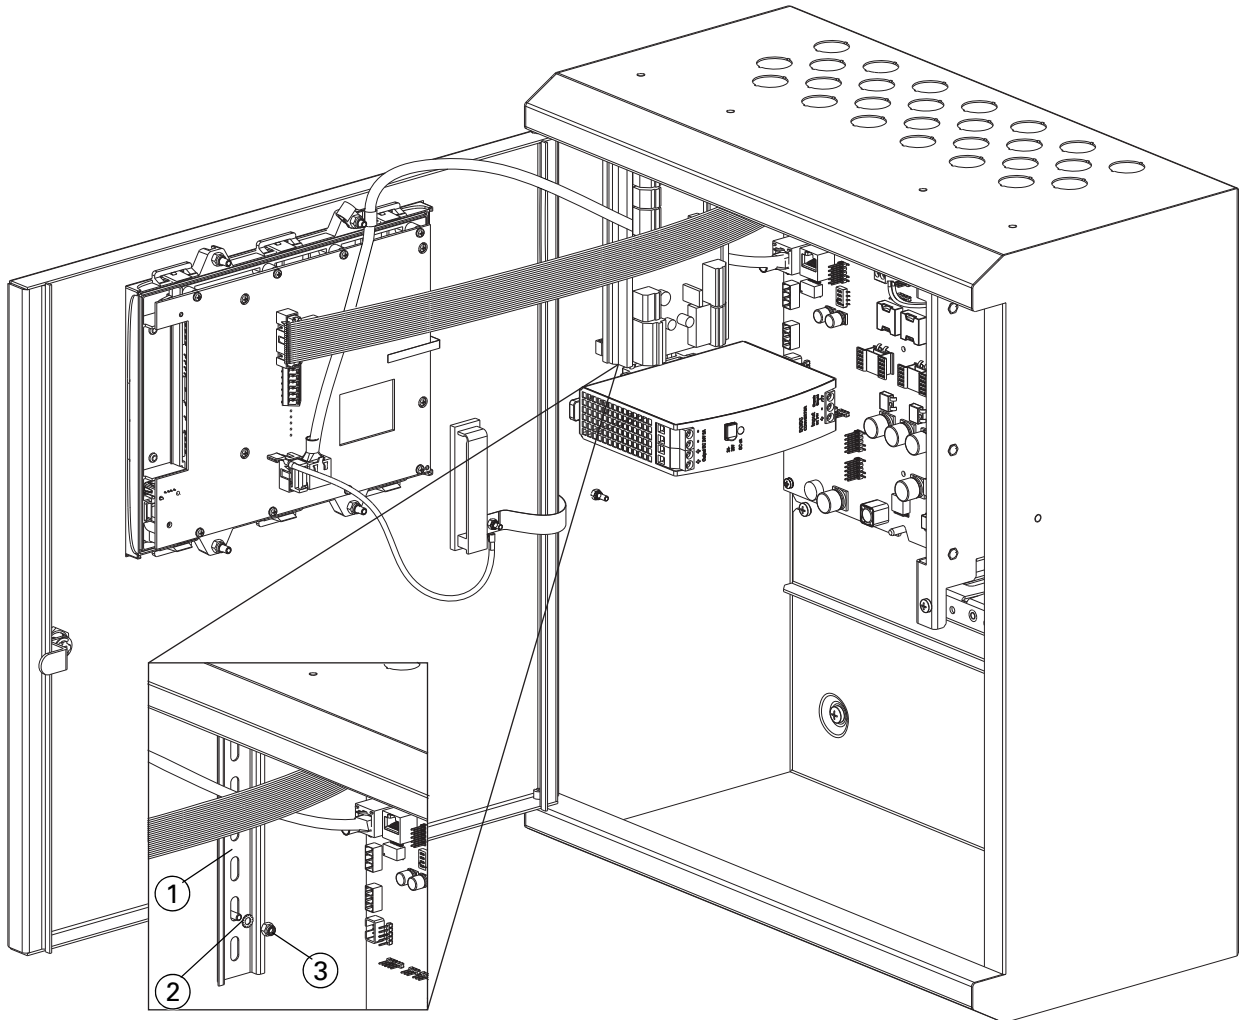

Fig. 35: DIN rail devices on a FC702D, FC718 or a FC708 panel
You need to fit the DIN rail to the left side of the panel housing, at the top, as shown in Fig. 35. You need to
To mount the DIN rail in a FC702D/718/708 panel, refer to Fig. 35 and complete these steps:
- 1 Place the DIN Rail (item 1 in Fig. 35) vertically on the top left corner of the panel, fitting the holes through the screws in the side of the box.
- 2 Fit a washer (item 2 in Fig. 35) through the screw and fasten with a nut (item 3 in Fig. 35).